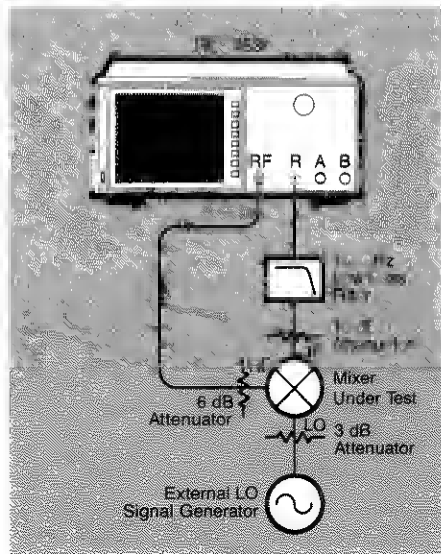

Figure 3. Block diagram for a fixed IF/fixed LO/fixed RF conversion loss measurement.
The simplest of all conversion loss measurements is the fixed IF/fixed LO measurement where all three frequencies are held constant. Figure 3 shows the block diagram for a fixed IF/fixed LO conversion loss measurement.
1. Connect the instruments as shown in figure 3.